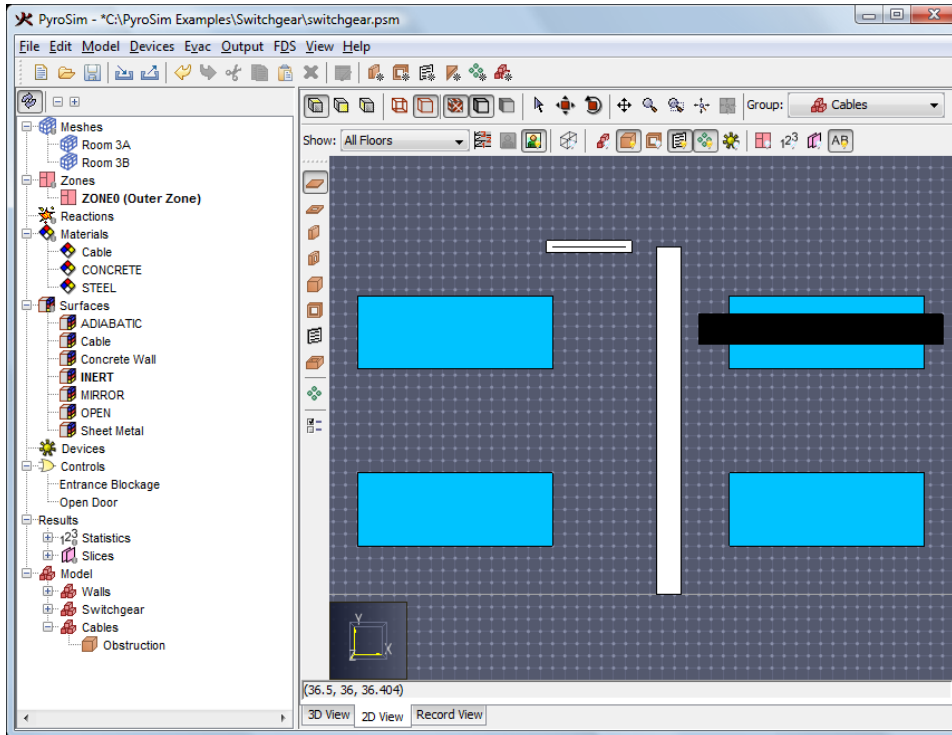

Figure 6.15. The sketch of Cable A
1. Press and drag the mouse, approximating the dimensions of cable A shown in Figure 6.1. After sketching, the cable will be as shown in Figure 6.15.